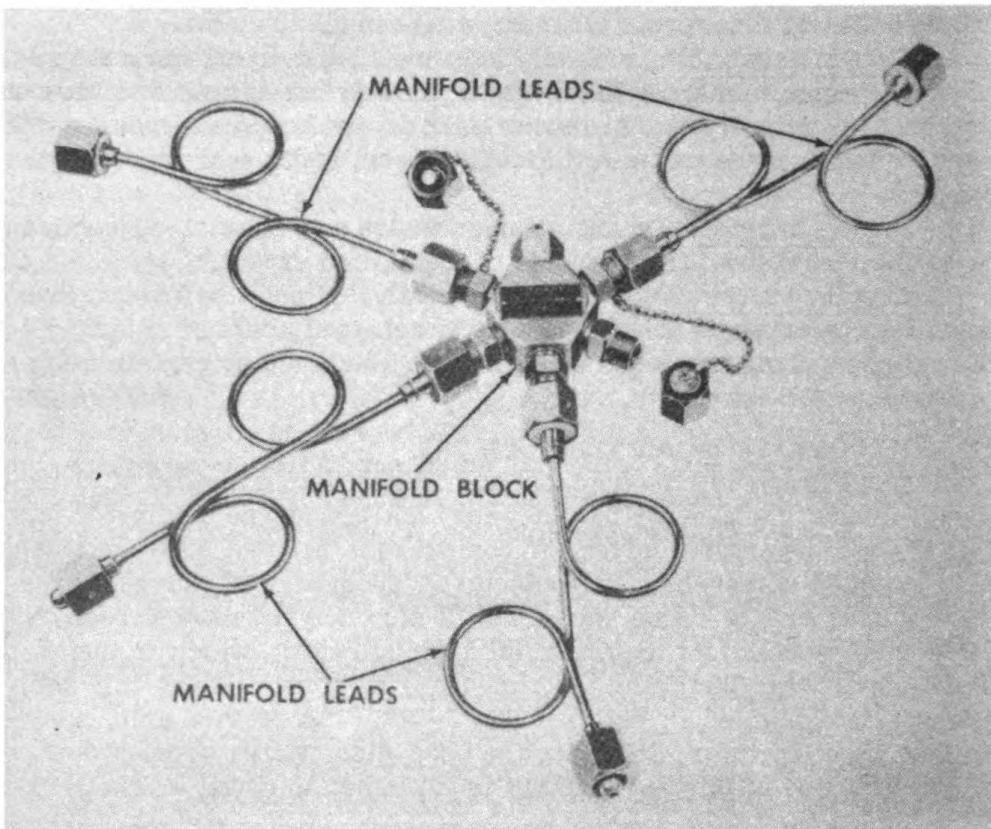

Fig. 117. Pressure filling line assembly (manifold) from E9 service kit.
a. Equipment required. (1) One manifold block and three or four manifold leads (fig. 117). These parts must be clean and free from oil or grease.